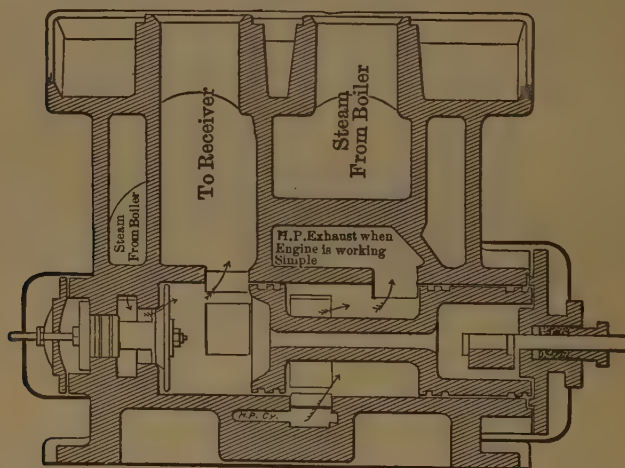
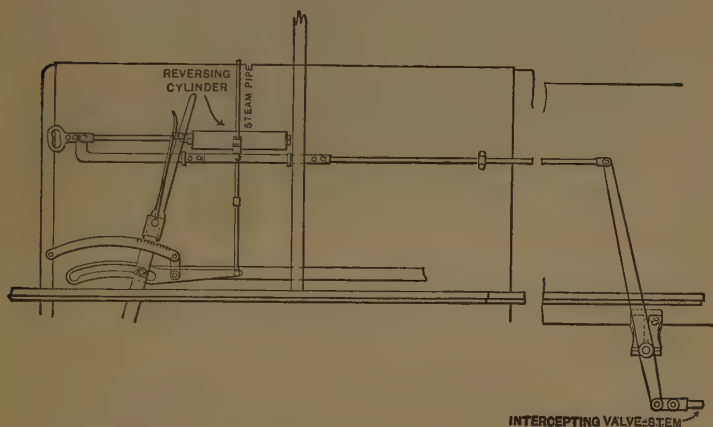

Fig. 216. Pittsburg (Colvin-Wightman) Compound, Working Single-Expansion.
Fig. 218. Reversing-device, Pittsburg (Colvin-Wightman) Compound.
A. Referring to figures 216 and 217, the essential features are
A. Through an independent exhaust-passage and nozzle, as in figure 216.
A. As shown in figure 218 there is an air or steam reversing-cylinder actuated by the reversing lever as follows: when the lever is down, or at full stroke, at either end, the intercepting-valve is in the position indicated by figure 216, permitting admission of live steam to the receiver; but the moving of the reverse-lever one or more notches opens a valve